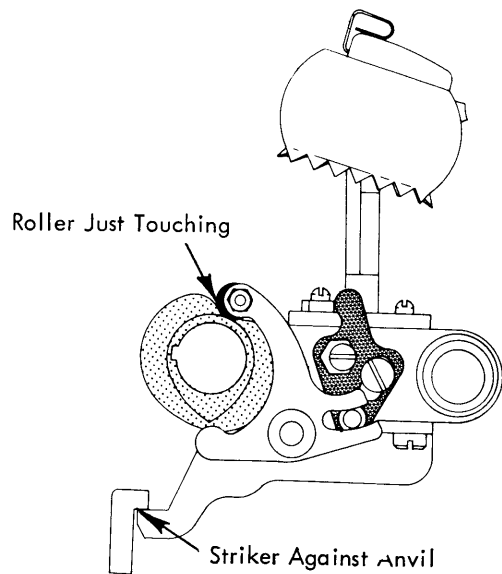

FIGURE 79. Restoring Cam Follower Eccentric Adjustment
- b. Restoring Cam Follower Eccentric - With the print cam follower at the high point of the cam and the platen removed, hold the typehead toward the rear until it is restricted by the anvil and striker. The rubber roller should just touch the restoring cam (Fig. 79). Adjust the eccentric, keeping the high point forward, to satisfy the condition.